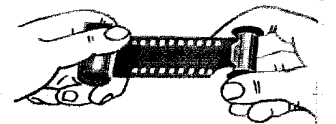

Fig. 6
1. Cut the spool end of the film to the correct taper and fasten it on the spool under the spring as shown in Fig. 6.